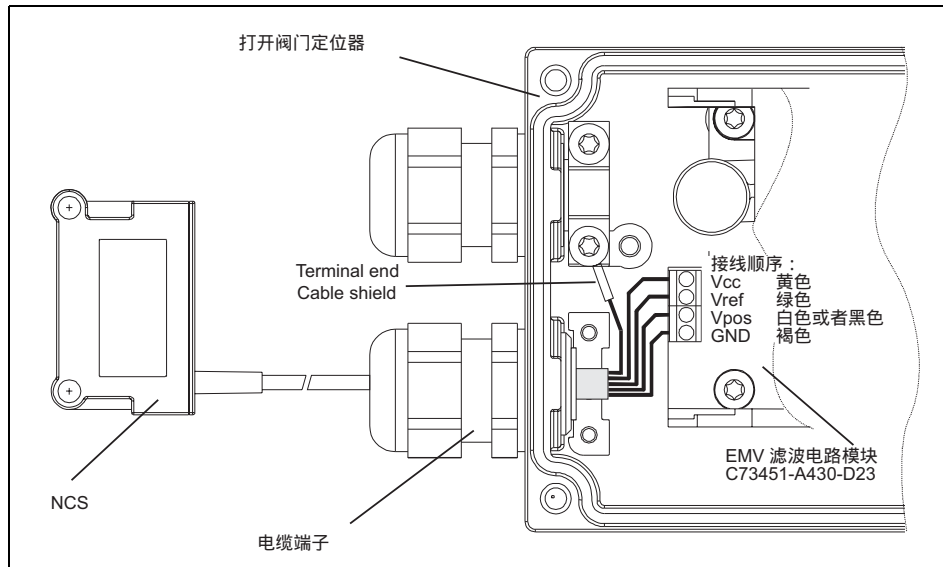

Figure 8 将NCS 连接到EMC 滤波电路模块
4. Clamp the colored wires of the cable in the following order (see Figure 8, page 57) to the terminal of the EMC filter module: